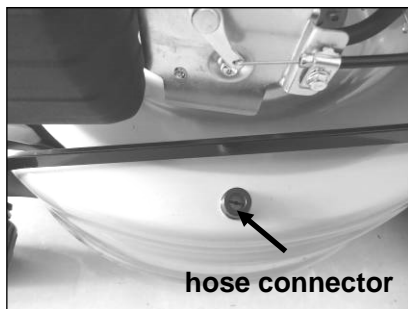

Figure 36
1. Insert the hose connector into the water hose connector on the deck; ensure they are firmly connected (fig.36).